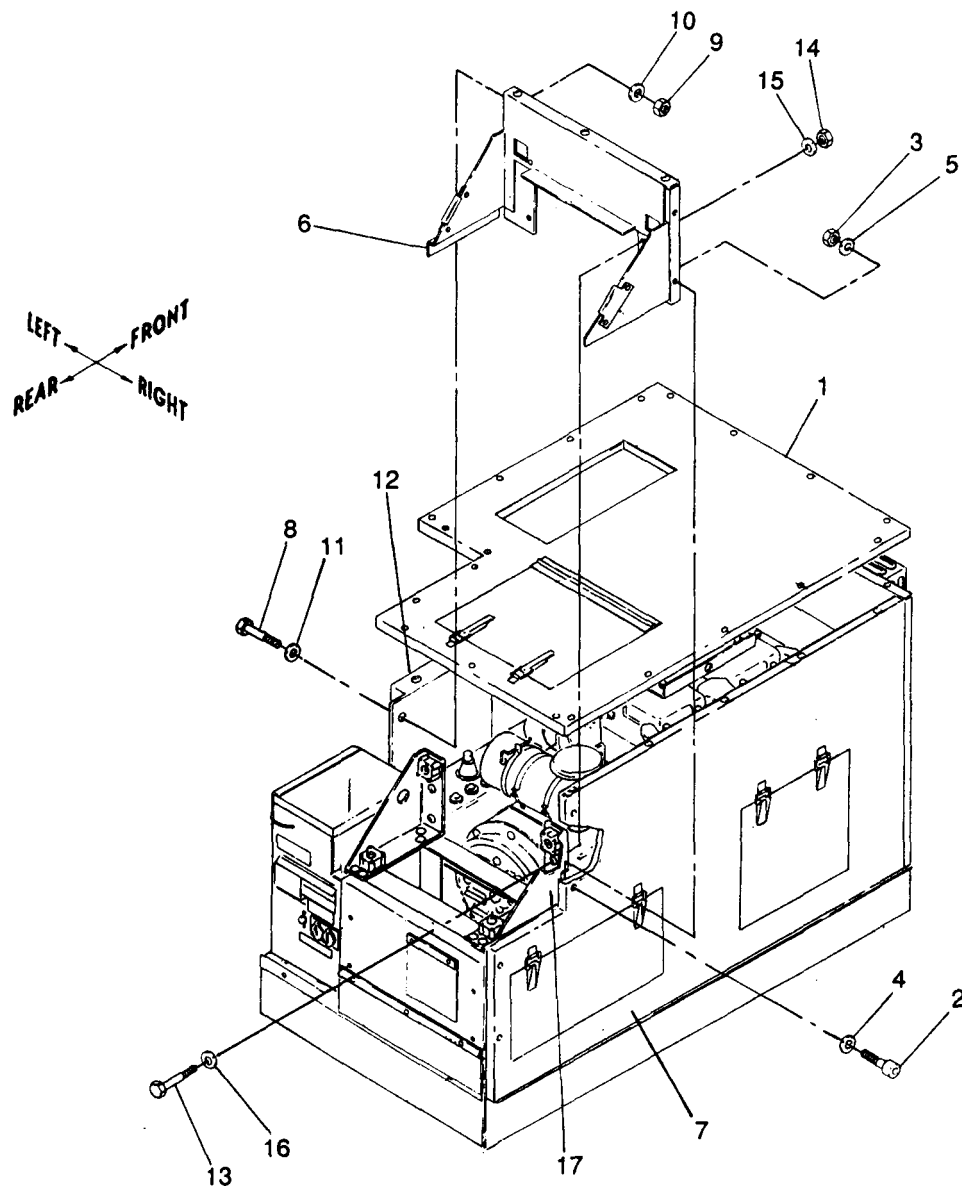

Figure 5-10. Rear Closure Assembly, Removal and Installation
a. Removal. See figure 5-10. Remove rear closure assembly from control box support, side closure assembly, right panel and top panel assemblies as follows:
(1) Remove top panel assembly (1) as described in paragraph 5-4.
(2) Remove two screws (2) and locknuts (3), and four washers (4 and 5) securing rear closure assembly (6) to right panel assembly (7).
(3) Remove two screws (8) and locknuts (9), and four washers (10 and 11) securing side closure assembly (12) to rear closure assembly (6).
(4) Remove four screws (13) and locknuts (14), and eight washers (15 and 16) securing rear closure assembly (6) to mounting brackets (17) and remove rear closure assembly (6).
b. Installation. See figure 5-10. Install rear closure assembly to control box support, side closure assembly, right panel and top panel assemblies as follows:
(1) Install four screws (13) and locknuts (14), and eight washers (15 and 16) securing rear closure assembly (6) to mounting brackets (17).
(2) Install two screws (8) and locknuts (9), and four washers (10 and 11) securing side closure assembly (12) to rear closure assembly (6).
(3) Install two screws (2) and locknuts (3), and four washers (4 and 5) securing rear closure assembly (6) to right panel assembly (7).
(4) Torque screws (2, 13, and 8) to 16 $\pm$ 2 ft-lbs dry.
(5) Install top panel assembly (1) as described in paragraph 5-4.
(5) Rear Closure Assembly (refer to figure 5-10, item 6).